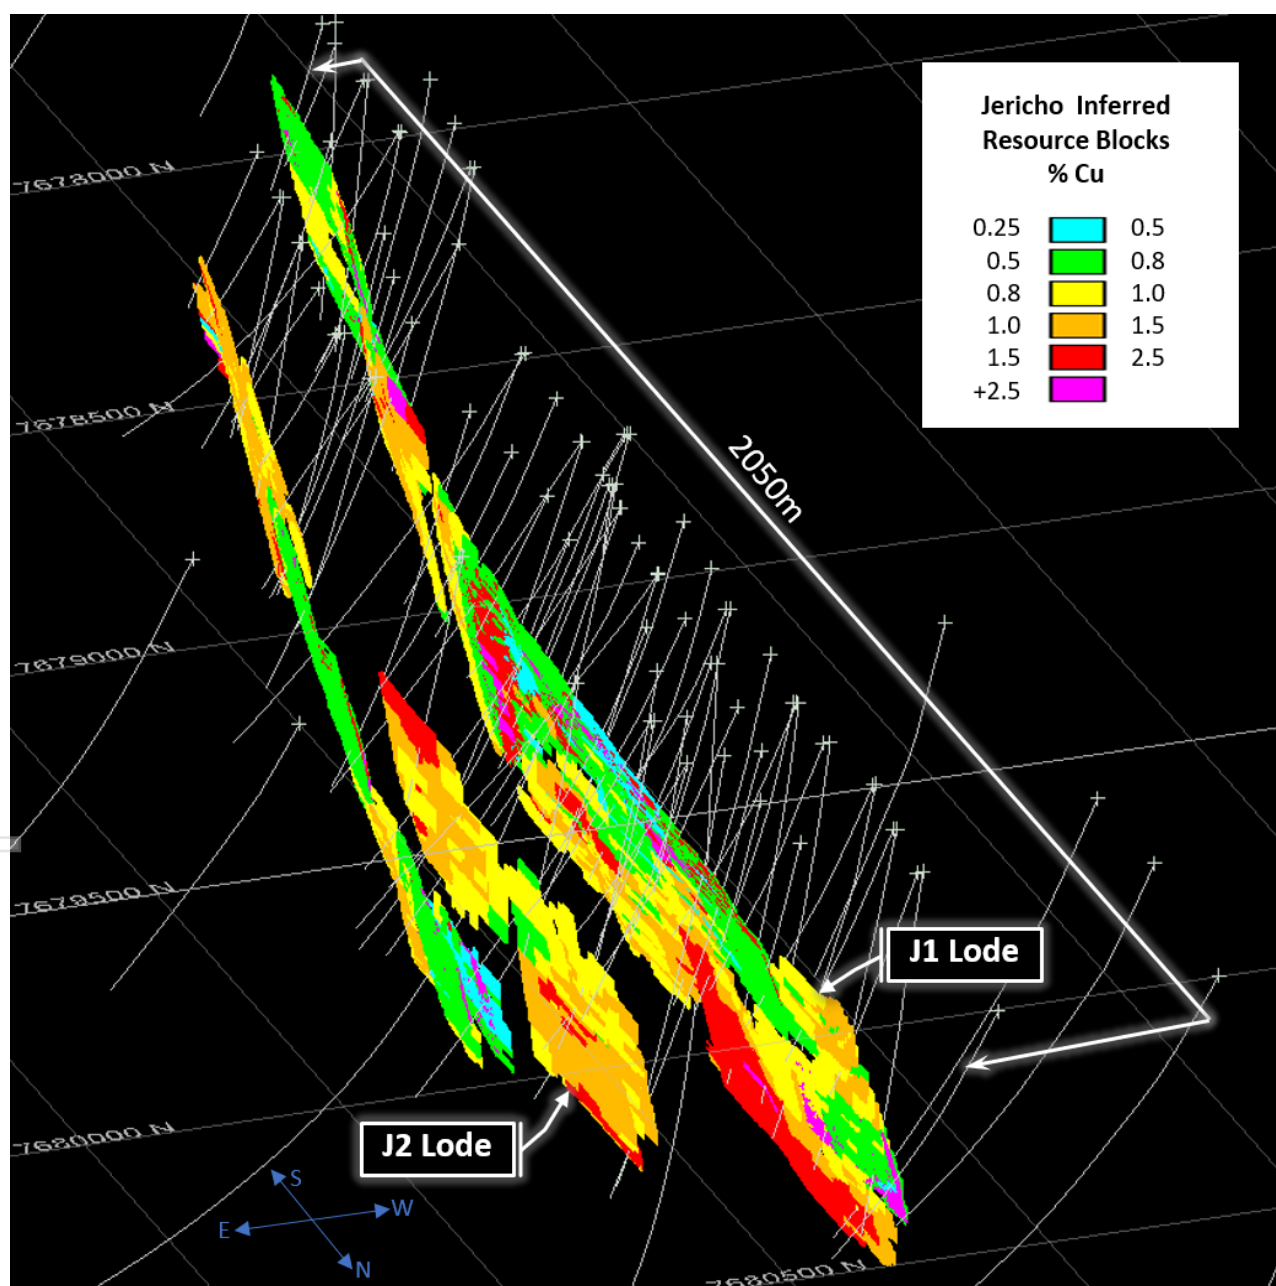
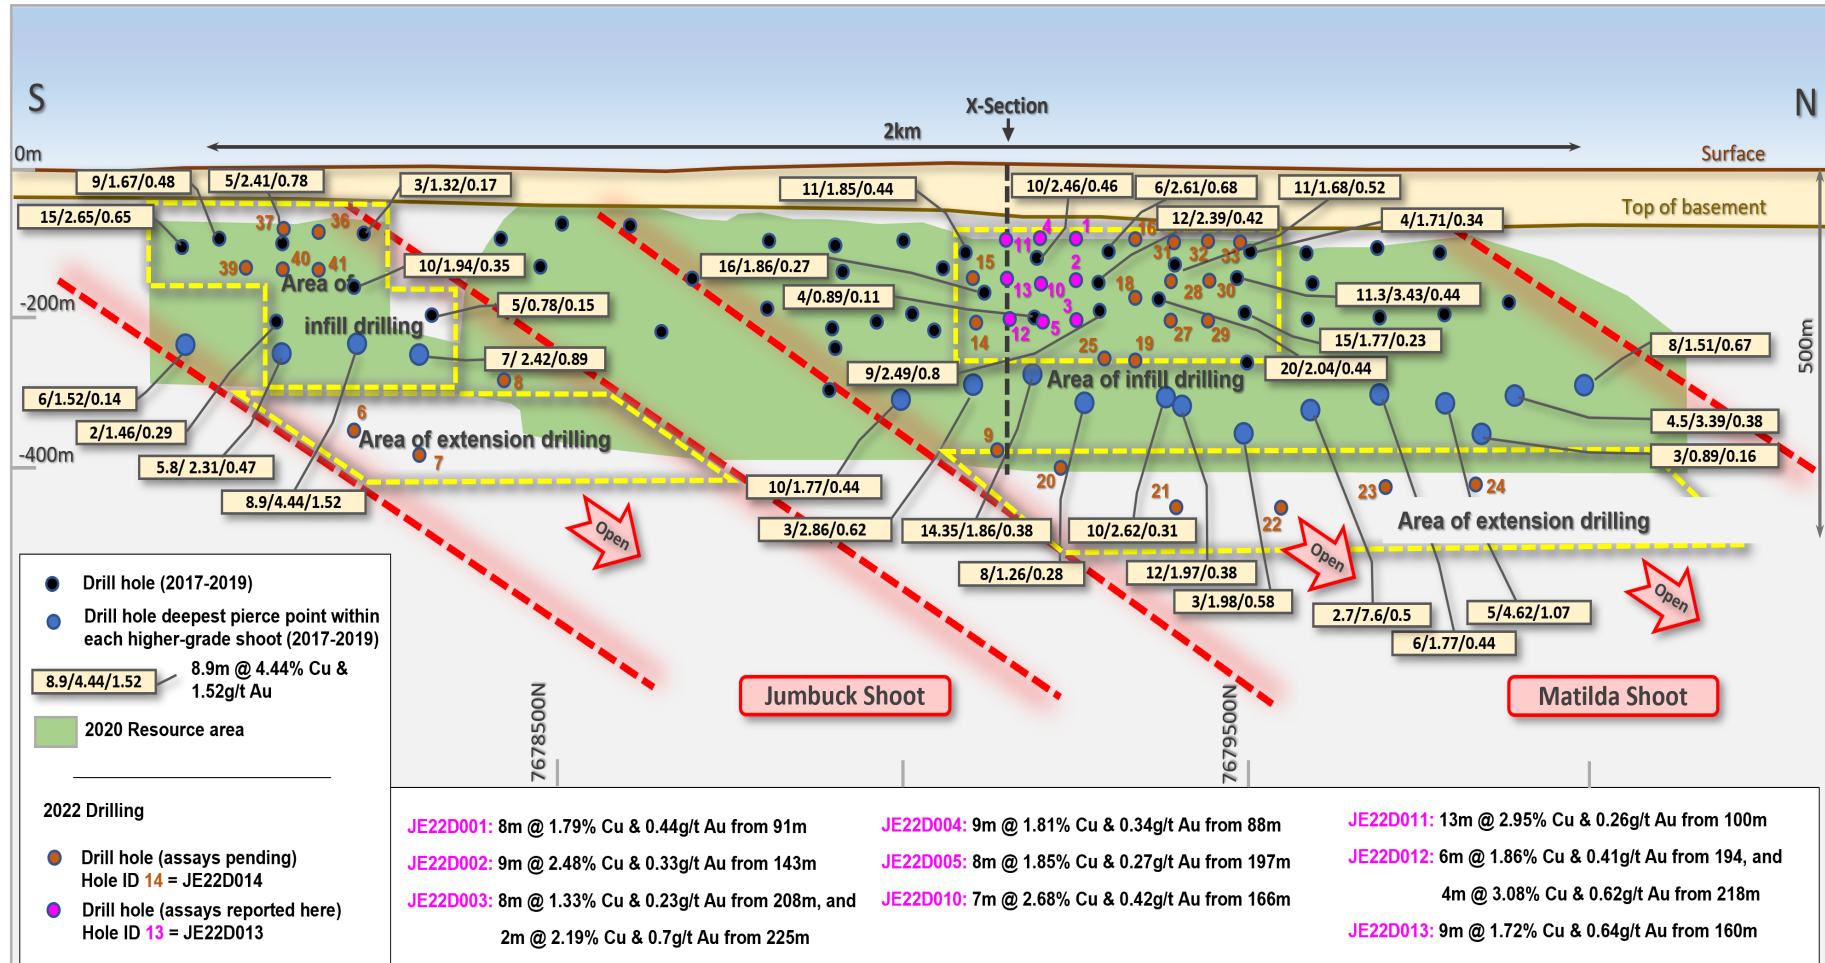

Figure 2: Jericho Lodes incorporated in 2019 resource model (only shows drill hole traces used to model the 2020 resource), viewed south-west.
Figure 4: Jericho J1 Lode long section, looking west, showing drilling pierce points, drill intercept assays and resource outline.
Demetallica commissioned two drill rigs at Jericho five weeks prior to its 26 May 2022 listing on ASX - a Reverse Circulation (RC) rig on day shift operations conducting infill resource drilling and a diamond rig on day/night shift drilling exploration extension holes down-plunge of the existing resource. Jericho comprises two copper-gold mineralised lodes, J1 and J2 (Figures 2 and 3), comprising a published resource of 9.1Mt @ 1.4% Cu and 0.3g/t Au with mineralisation open along strike and at depth. Drilling on both lodes is underway, with excellent progress made on J1 where 36 holes are complete (Figure 4).
Infill drilling of the Matilda shoot within J1 Lode has 22 of 24 planned holes complete (Figure 4). These holes augment 12 existing holes (36 holes in total when complete) to provide nominal 50m drill spacing covering 450m of strike and 150-200m dip extent.
Infill drilling within the Jumbuck shoot at the southern end of J1 lode (Figure 4) is proceeding, with 5 of 21 planned holes complete. These holes augment 10 existing holes (31 holes in total when complete) to provide nominal 50m drill spacing covering most of an area 300m long and 200m depth extent.
Resource extension drilling at J1 Lode is also progressing strongly with 9 holes complete comprising 3 holes within Jumbuck shoot and 6 holes within Matilda shoot (Figure 4). Copper sulphide was intersected in all holes at the predicted lode position confirming mineralisation extends below the base of the current resource within both shoots. Extension drilling on Jumbuck has extended mineralisation down plunge 100-150m along 200m of strike and remains open. Drilling on Matilda has extended mineralisation down plunge for around 100m along 750m of strike which also remains open.